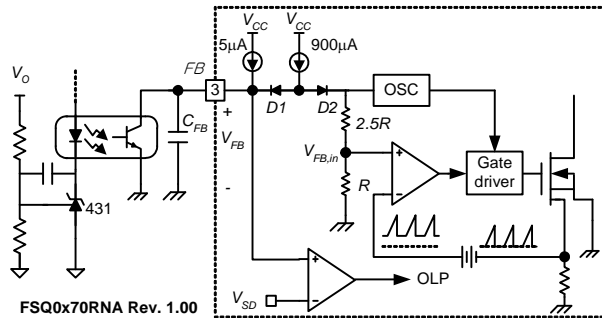

Figure 14. Pulse Width Modulation Circuit
2. Feedback Control: The 700V power switch series employs current-mode control, as shown in Figure 14. An opto-coupler (such as the H11A817A) and shunt regulator (such as the KA431) are typically used to implement the feedback network. Comparing the feedback voltage with the voltage across the R_{sense} resistor of SenseFET, plus an offset voltage, makes it possible to control the switching duty cycle. When the shunt regulator reference pin voltage exceeds the internal reference voltage of 2.5V, the opto-coupler LED current increases, the feedback voltage V_{FB} is pulled down and thereby reduces the duty cycle. This typically happens when the
4.3 Over-Voltage Protection (OVP): In the event of a malfunction in the secondary-side feedback circuit, or an open feedback loop caused by a soldering defect, the current through the opto-coupler transistor becomes almost zero (see Figure 14). V_{FB} climbs up in a similar manner to the overload situation, forcing the preset maximum current to be supplied to the SMPS until the overload protection is activated. Because excess energy is provided to the output, the output voltage may exceed the rated voltage before the overload protection is activated, resulting in the breakdown of the devices in the secondary side. To prevent this situation, an Over-Voltage Protection (OVP) circuit is employed. In general, V_{CC} is proportional to the output voltage and the power switch uses V_{CC} instead of directly monitoring the output voltage. If V_{CC} exceeds 19V, the OVP circuit is activated, resulting in termination of the switching operation. To avoid undesired activation of OVP during normal operation, V_{CC} should be designed to be below 19V.